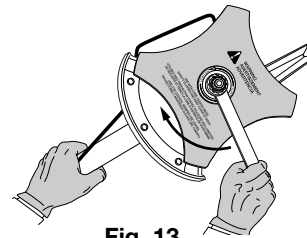

Fig. 13
- Hold the locking rod in place by grasping it next to the boom of the unit (Fig. 13).
- While holding the locking rod, loosen the nut on the blade by turning it clockwise with the supplied wrench (or a 5/8 inch closed-end or socket wrench) (Fig. 13).